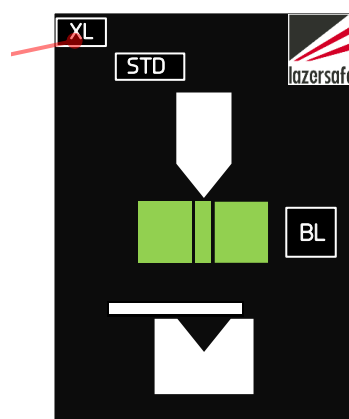

Figure 11-2: Sensor Window for Sentinel Plus XL
- The User Interface Panel displays the **XL** symbol in the Sensor screen, see Figure 11-2.